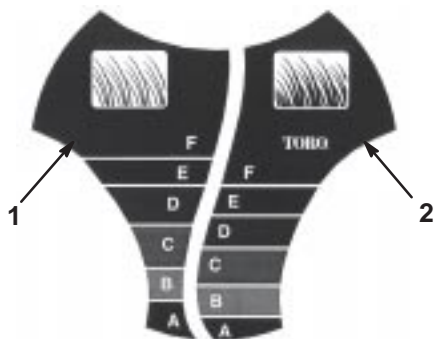

Figure 14
The SmartWheel™ has 2 cutting scales: Sparse/Normal and Lush—to ensure the best cutting height setting in any mowing condition (Fig. 14). Use the Sparse/Normal scale during the warm summer season for the majority of your mowing. The Lush scale is for thick, moist, and succulent grass that grows most often in the spring.
2. Move the lawn mower into the grass; stop moving the lawn mower when the SmartWheel design on one of the rear wheels is upright (Fig. 14).